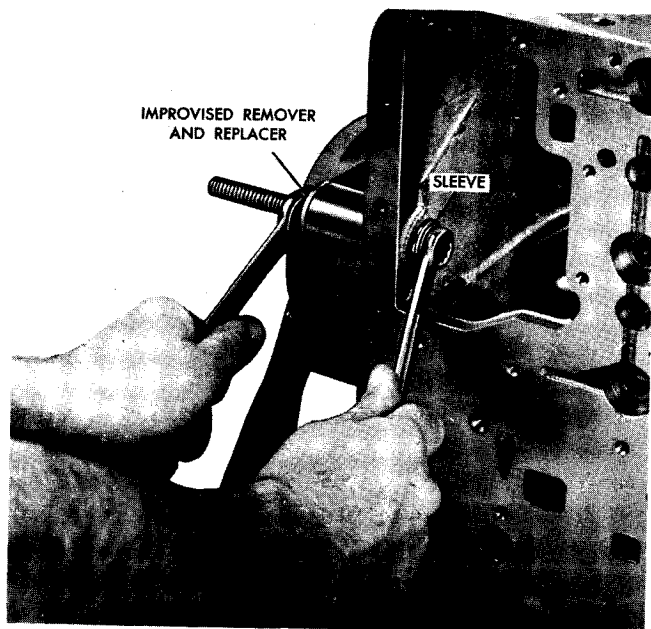

Fig. XIII-1 Removing shift lever sleeve from transmission housing
(1) Shift lever sleeve 51 is to be removed only if it needs replacement.
(2) Using an improvised remover and replacer (fig. XIII-1), tighten the nut to pull the shift lever sleeve from the transmission housing into the hollow tube.